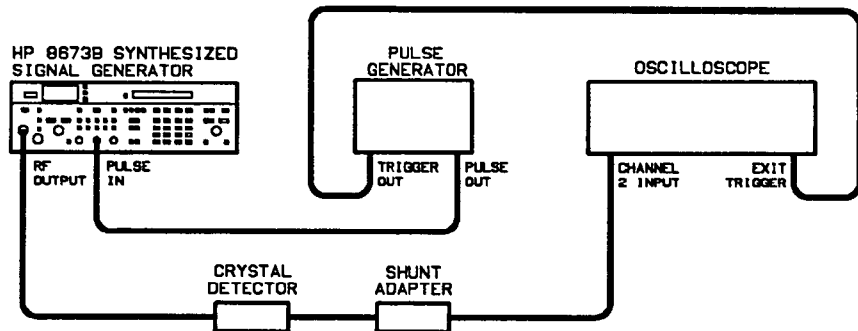

Figure 5-39. Pulse Amplitude Control Manual Adjustment Test Setup
1. Connect the equipment as shown in figure 5-39.